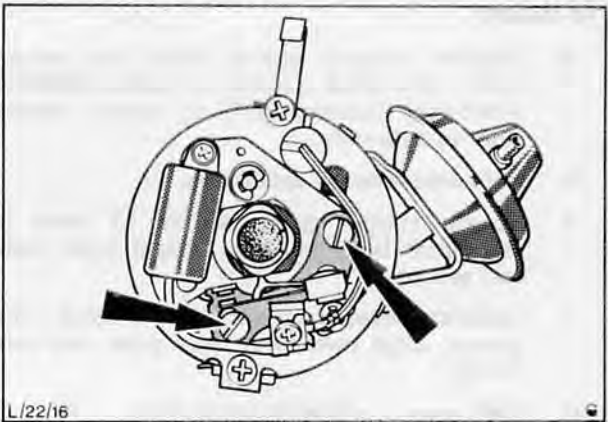

Fig. 50. Contact breaker adjusting screws
- 22. Check points gap and adjust, Fig. 50.